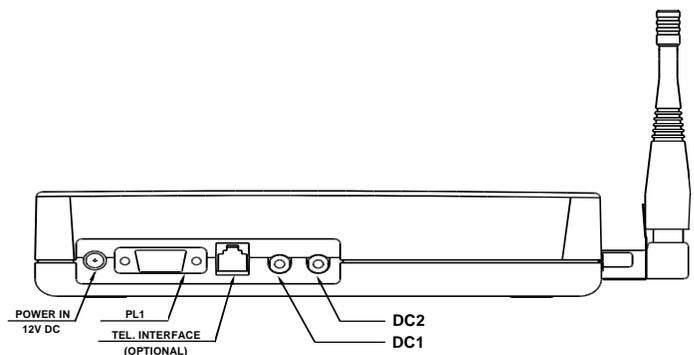

Figure 2
3. Ensure the two jack plugs are installed (DC1 and DC2). Even if they are not wired to a switch, removal will trigger the unit when it is first powered up (unless the contacts have been programmed out). (See Figure 2.)
4. Connect the AC adapter supplied with the unit to the base station by inserting the plug into the "power in" jack at the rear of the NC371A. (See Figure 2.)